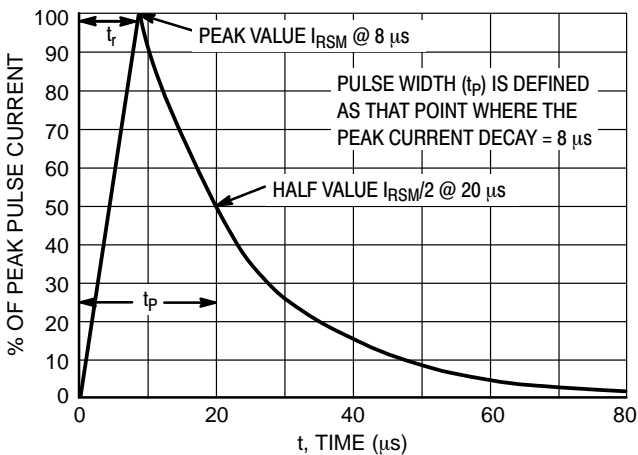

Figure 1. IEC61000-4-5 8/20  $\mu\text{s}$  Pulse Waveform
1. Non-repetitive current pulse per Figure 1 (Pin 5 to Pin 2)
( $t_p = 8/20 \mu\text{s}$  per Figure 1)